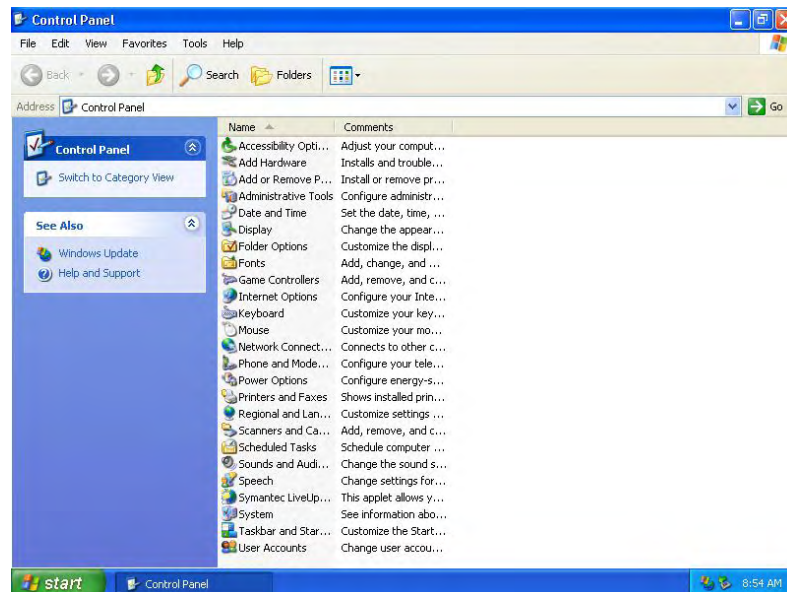

Figure 1-66. Control Panel Window Classic Style
3. In the “Control Panel” window, double click on **Date and Time** icon (Figure 1-66).